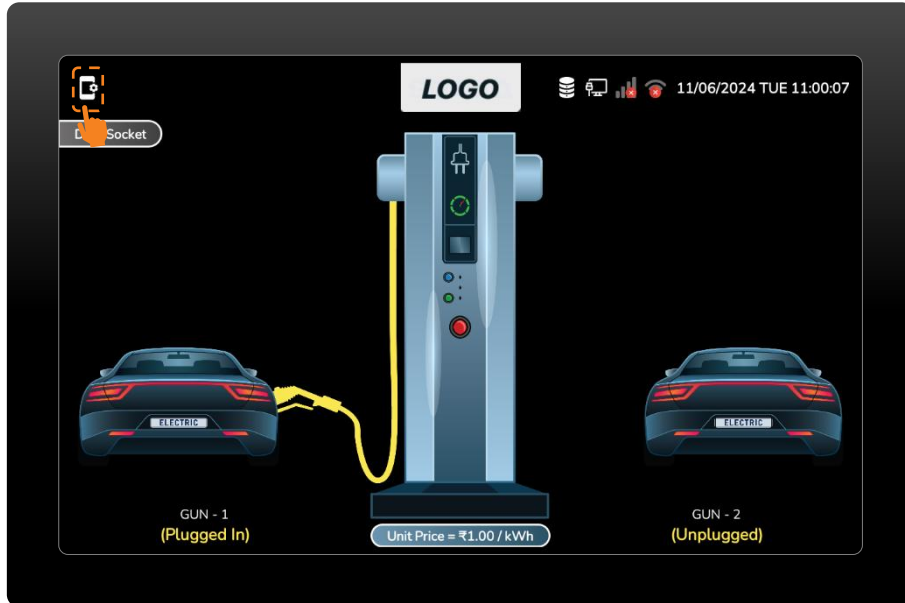

Figure 3 Dashboard Screen: Press the Setting Icon.
- Pressing the setting icon will open the setting menu, allowing the user to change and modify settings as required. (Figure 3)